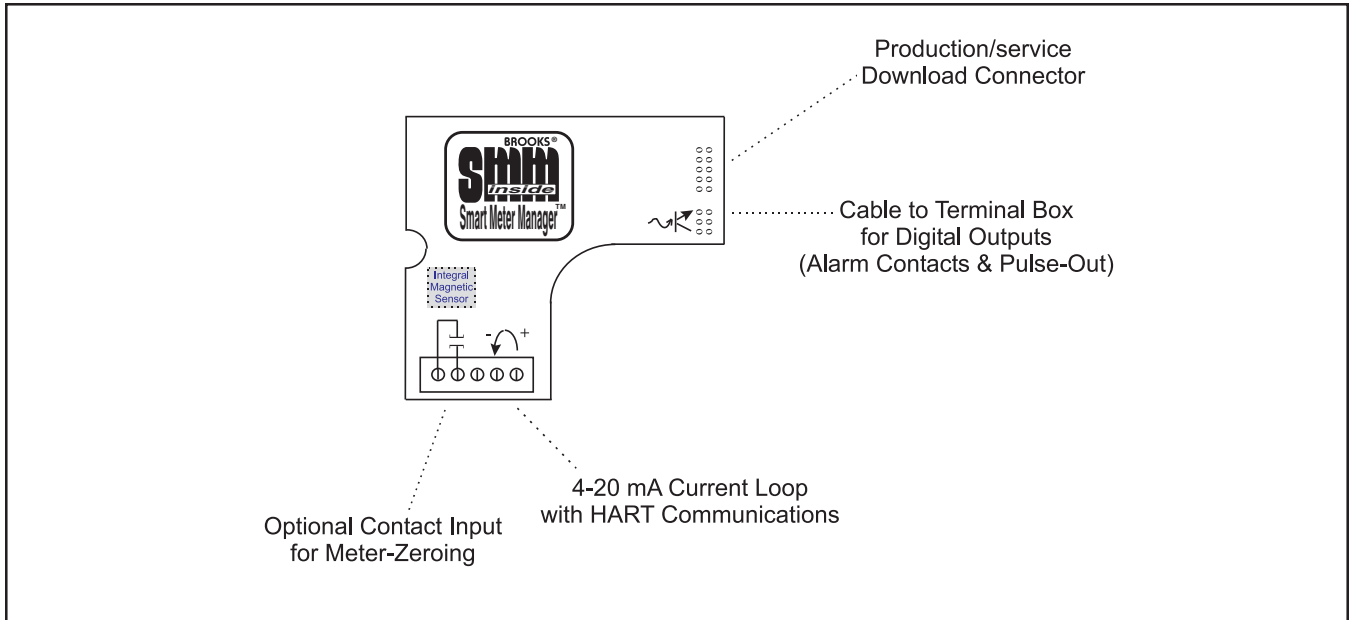

Figure 2-2 Smart Meter Manager Electrical Configuration
The 2-wire, 4-20 mA analog output provides real-time information on process flow rate. The 1200 baud, HART communication data is overlaid and transmitted on the 4-20 mA signal. Refer to Figure 2-2 for SMM electrical configuration. The float is constructed with an integral magnet that activates a magnetic sensor that is part of the transmitter. This same float magnet also drives the mechanical pointer. The flow rate is scalable by setting independent high and low range parameters. The Analog Output (AO) transmitter parameters, AO Hi-Range and AO Lo-Range span the 4-20 mA signal. For example, if flow rate is normally between 100 and 500 gpm, the AO Hi-Range parameter is set at 500 and the AO Lo-Range is set at 100. Like other common parameters, the AO Hi-Range and AO Lo-Range can be set by Brooks prior to shipment.